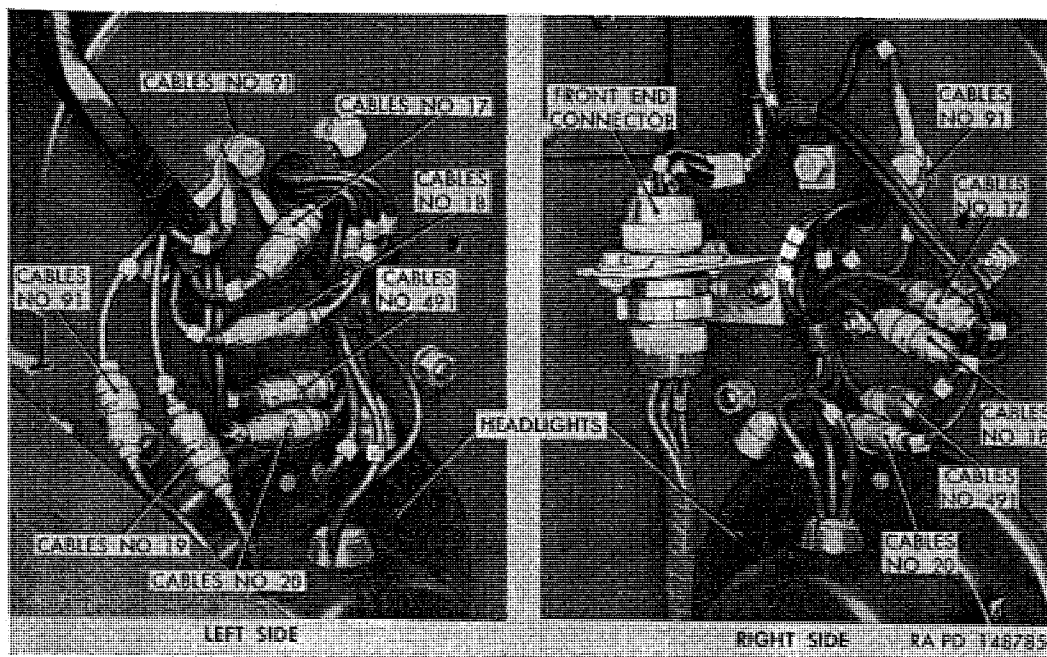
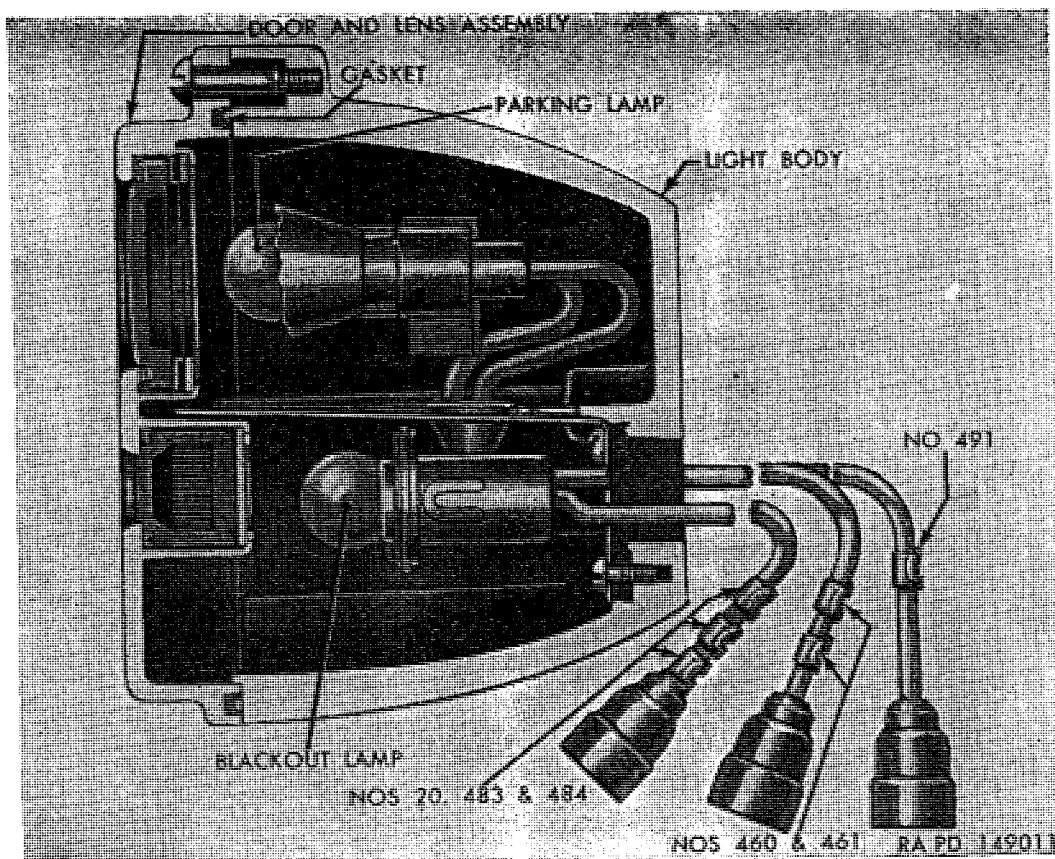

Figure 162. Headlight and marker light wiring connections.
Figure 165. Sectional view of front marker light.
- (a) Disconnect two headlight cables Nos. 17 and 18 at bayonet-type connectors shown in figure 162. Remove front marker light mounting cap screw and lockwasher attaching headlight ground cable No. 91 to radiator side baffle. Disengage ground cable from clip on radiator side baffle..
- (a) Disconnect light cables from harness cables at rear of left radiator side baffle (cable Nos. 91 and 19, fig. 162). Remove
- (c) Connect light cables to harness cables at rear of radiator side baffle (fig. 162), making sure numbers on cables are matched.
a. *Door and Lamp Replacement* (fig. 165).
- (1) *Removal.* Unscrew six door retaining screws, then remove door and lens assembly and door sealing gasket. Press lamp in and turn counterclockwise to remove from socket.
- (2) *Installation.* Press new lamp into socket and turn clockwise to lock in place. Examine door sealing gasket. If not in good condition, remove old gasket and press new gasket into groove in door. Install door and lens assembly and attach with six screws.
- (a) Disengage marker light cables from clip on back of radiator side baffle; then disconnect cables from harness at bayonet-type connectors (fig. 162).
- (a) Insert light cables through hole in radiator side baffle and position light assembly against baffle. Attach light assembly to baffle with two $\frac{3}{8}$ -16 x $\frac{5}{8}$ cap screws and $\frac{3}{8}$ -inch external-teeth lockwashers, making sure ground cables No. 91 (fig. 162) are secured under one cap screw head.
- (b) Connect cable having three tags (Nos. 20, 483, and 484, fig. 165) to harness cable No. 20 (fig. 162). Connect cable hav-